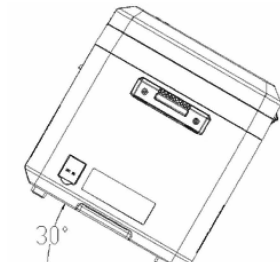

Fig. 4
d. As shown in Figure 4, when the tilt angle in the direction exceeds 30 degrees, turn off the compressor, the machine's buzzer will beep three times and the E0 alarm will flash. Once equalized, the display screen will restore the current temperature inside the box. After leveling for 3 minutes, the compressor restarts.